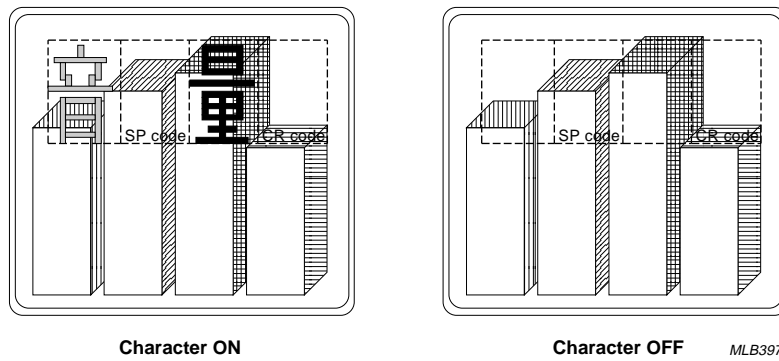

Fig.22 Blinking in No background (superimpose) mode.
Figures 22 to 25 show the display of Space and Carriage Return Characters in the 4 display modes, with the Blinking function ON and OFF.
- Mode 0: No background mode. Both the Space Code and the Carriage Return Code are displayed as transparent (no bit) patterns, with the video signal as the background. This is shown in Fig.22.